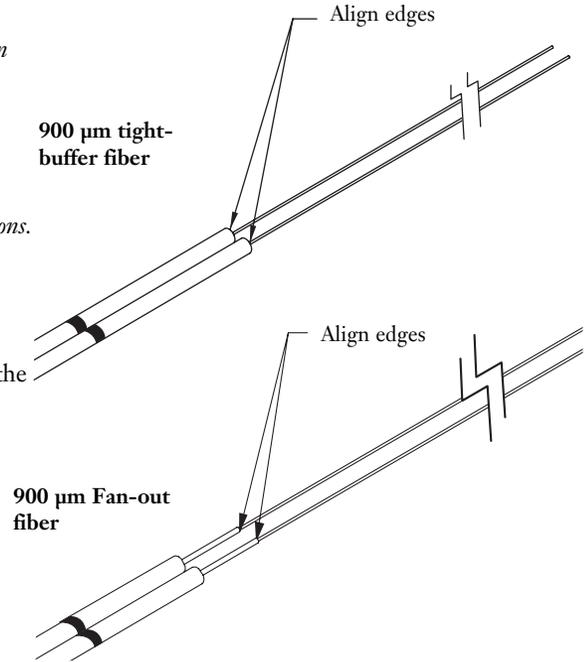

Figure 3-17
**3.6-2** Prior to placing the fibers in the handler, align them, ensuring that the ends of the fibers' coatings are lined up (Figure 3-17).